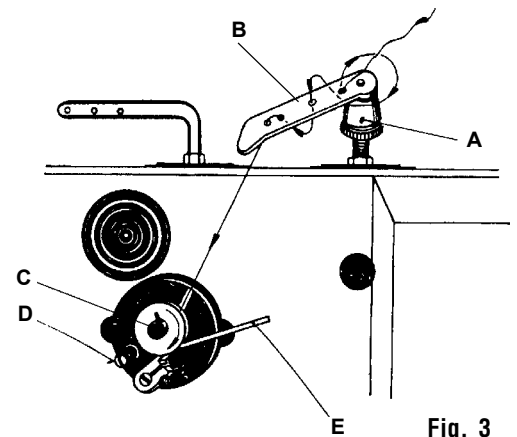

Fig. 3
6.2 Winding of thread on the hook bobbin (Fig. 3)